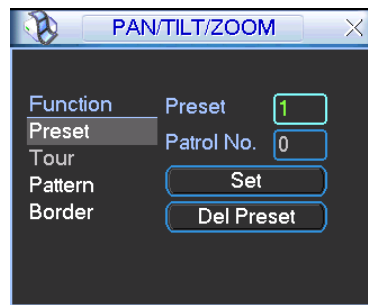
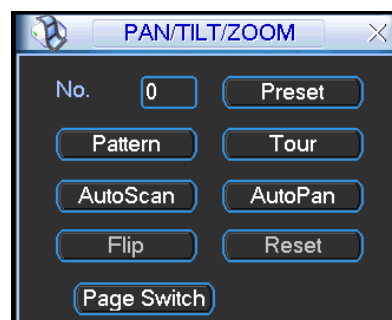
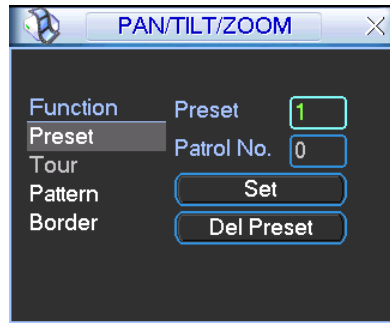

Figure 4-33
Figure 4-34
Figure 4-35
In Figure 4-30, please click the “set” button. The interface is shown as below. See Figure 4-33.
In Figure 4-30, click page switch button, the interface is shown as in Figure 4-34.
- The following setups are usually operated in the Figure 4-30, Figure 4-33 and Figure 4-34.
In Figure 4-33, click preset button and input preset number. The interface is shown as in Figure 4-35
In Figure 4-34, please input preset number in the No. blank, and click preset button.
In Figure 4-33, please click patrol button. The interface is shown as in Figure 4-36. Input preset number and add this preset to a patrol (tour). For each patrol (tour), you can input max 80 presets.
In Figure 4-35 click pattern button and then click "begin" button. The interface is shown as in Figure 4-37. Then you can go to Figure 4-30 to modify zoom, focus, and iris.
In Figure 4-34, input mode value in the No. blank, and click pattern button.
In Figure 4-33, click border button. The interface is shown as in Figure 4-38. Please go to Figure 4-30, use direction arrows to select camera left limit
In Figure 4-34, click "Auto Scan" button, the system begins auto scan. Correspondingly, the auto scan button becomes Stop button. Click stop button to terminate scan operation.
In Figure 4-34, click page switch button, you can see an interface is shown as below. See Figure 4-39. Here you can set auxiliary function. The aux value has relationship with the Aux button of the decoder.